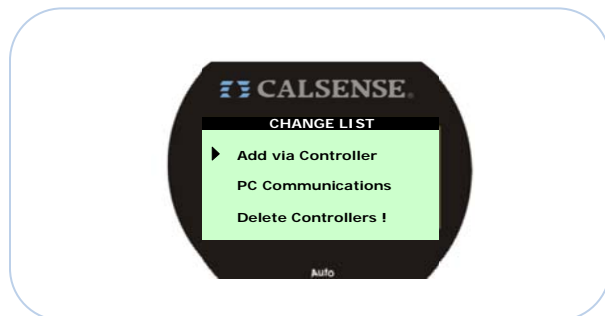

Figure 5.0.2
The **CHANGE LIST** screen is displayed (Figure 5.0.2).
From the CHANGE LIST screen (Figure 5.0.2).
6. Press the **BACK/MENU** key to return to the CHANGE LIST screen (Figure 5.0.2).